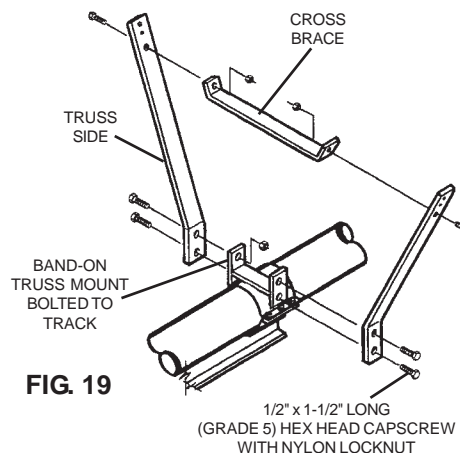

FIG. 19
10. Loosely bolt truss sides to upper truss mount. See Fig. 19. Bolt the crossbrace between the truss sides with two 3/8" x 1-1/4" long (grade 5) hex head capscrews and nylon locknuts. Tighten the hardware holding truss sides to truss mounts.